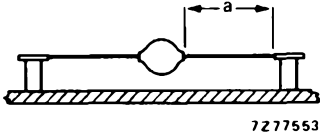

Fig. 3 Mounting method 2.
2. Thermal resistance from junction to ambient when mounted to solder tags at a lead length  $a = 10$  mm; Fig. 3
Fig. 7 Interrelation between the steady-state power dissipation excluding power in avalanche region (left-hand graph), and the maximum permissible ambient temperature (no leads of other dissipating components running to the same tie-points) in accordance with the mounting methods mentioned in Figs 3 and 4.